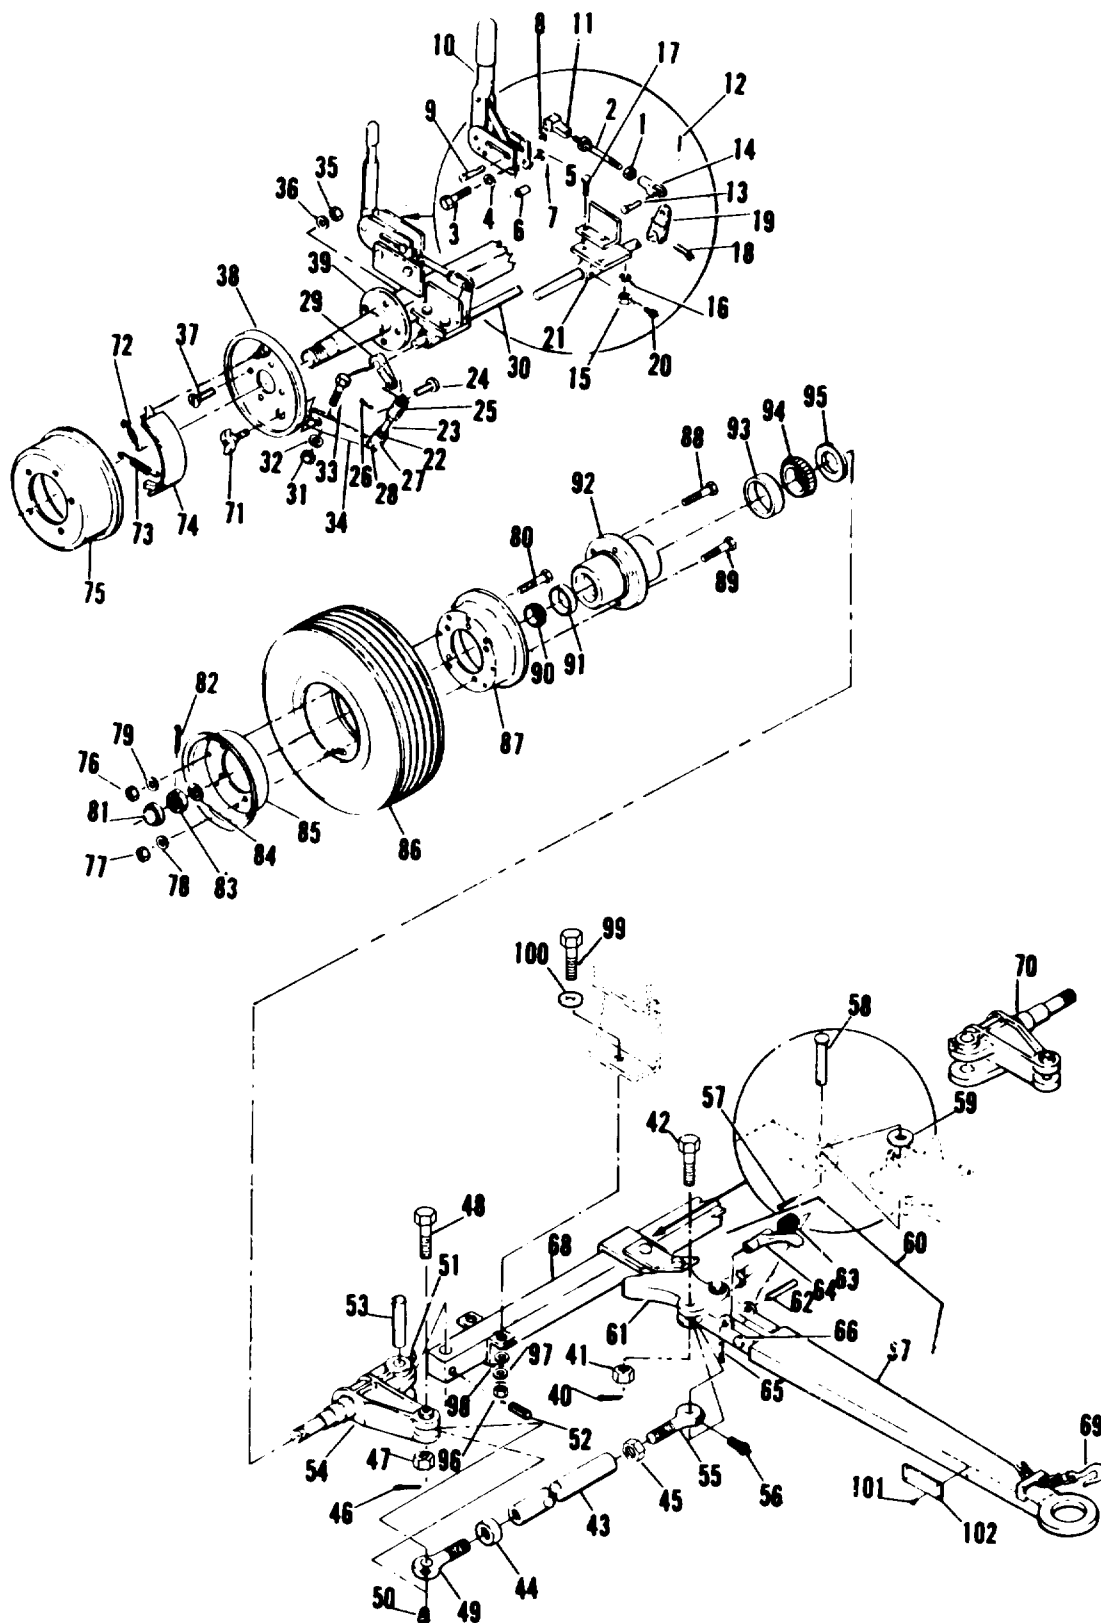

Figure 5-13. Wheel Mounting Kit, Exploded View (Sheet 1 of 2)
- (8) Jack the front end of the generator up and place a suitable support under the front axle.
- (9) Remove the grease cap (81, figure 5-13), cotter pin (82), castellated nut (83), key washer (84) and remove the wheel, tire, and hub as an assembly.
- (10) Remove roll pin (52) and king pin (53).
- (11) Install a new king pin and roll pin and install the wheel in reverse order of removal.
- (12) Refer to Operator and Unit Maintenance Manual and check wheel alignment.
- (1) Position ID plate (102, figure 5-13) and secure with rivets (101).
- (2) Install beveled washer (100), capscrew (99), flatwasher (98), lockwasher (97) and nut (96).
- (3) Install grease seal (95), inner bearing (94), bearing race (93), hub (92), bearing race (91), outer bearing (90), studs (89), and (88), wheel half (87), into tire (86), wheel half (85), key washer (84), castellated nut (83), cotter pin (82), grease cap (81), screw (80), lockwashers (79 and 78), nuts (77 and 76).
- (4) Install brake drum (75), brake shoe (74), return spring (73), hold-down spring (72) and camshaft (71).
- (5) Install sprindle and knuckle (70), safety chain (69), front axle (68), tow bar (67), hinge pin (66), latch (64), spring (63), roll pin (62) and cotter pin (65).
- (6) Install center arm (61), tow bar (60), spacer washer (59), pin (58), cotter pin (57).
- (7) Install grease fitting (56), and tie rod end (55).
- (8) Install spindle and knuckle (54), king pin (53), roll pin (52), grease fitting (51).
- (9) Install grease fitting (50), nuts (44 and 45), tube (43), tie rod end (49), bolt (48), nut (47), and cotter pin (46).
- (10) Install bolt (42), nut (41), and cotter pin (40).
- (11) Install rear axle (39), backing plate (38), bolt (37), lockwasher (36), and nut (35).